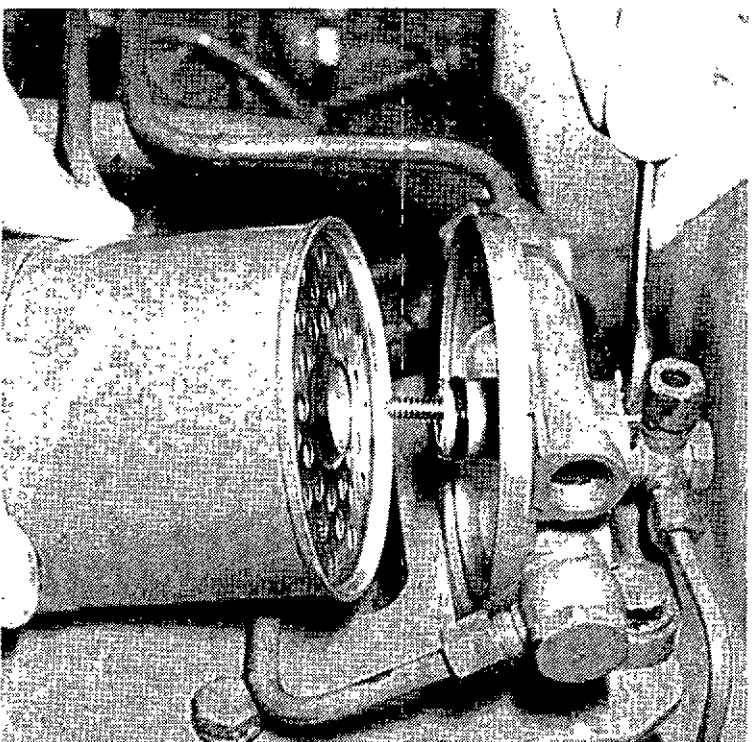

Fig. 12 To renew a fuel filter element
- 2 Release the setscrew in the centre of the cover of the filter (see fig. 12).
- 9 Remove air from the fuel filter, see items 1 and 2 on page 27.